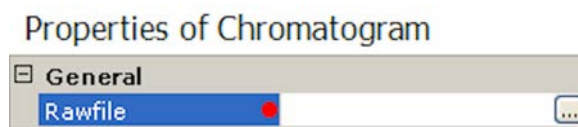

Figure 3-13. Selecting a raw file
1. In the Properties of Chromatogram pane, click into the empty field of the Rawfile parameter to display the  button. See Figure 3-13.